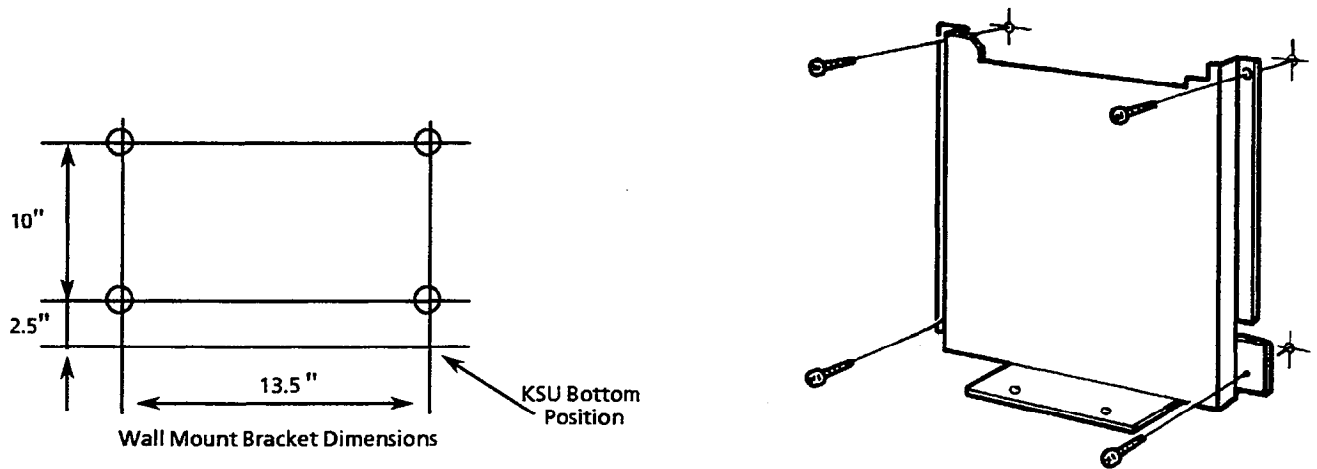

Figure 3-10 Attaching the Wall Mount Bracket of the Level II KSU to the Wall
1. Using five screws (locally provided), attach the wall mount bracket to the wall. Refer to Figure 3-10 - Attaching the Wall Mount Bracket of the Level II Basic KSU to the Wall.